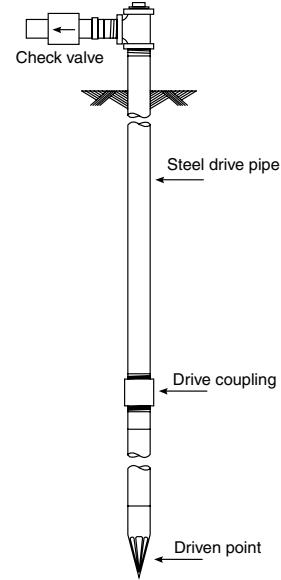

Figure 2 – Driven Point Installation
- Connect the suction pipe to the drive point (Figure 2). Keep horizontal pipe run as short as possible. Use PTFE pipe thread sealant tape on male pipe threads. Multiple well points may be necessary to provide sufficient water to pump.
- To aid priming with well point installations, install a check valve as shown in Figure 2. Ensure the check valve's flow arrow point toward the pump.